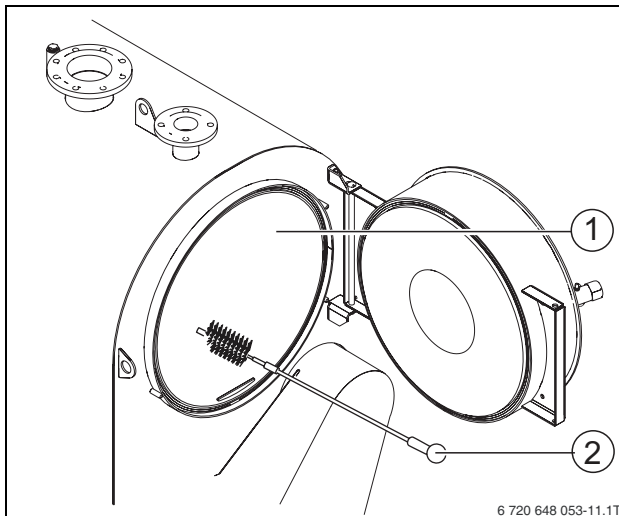
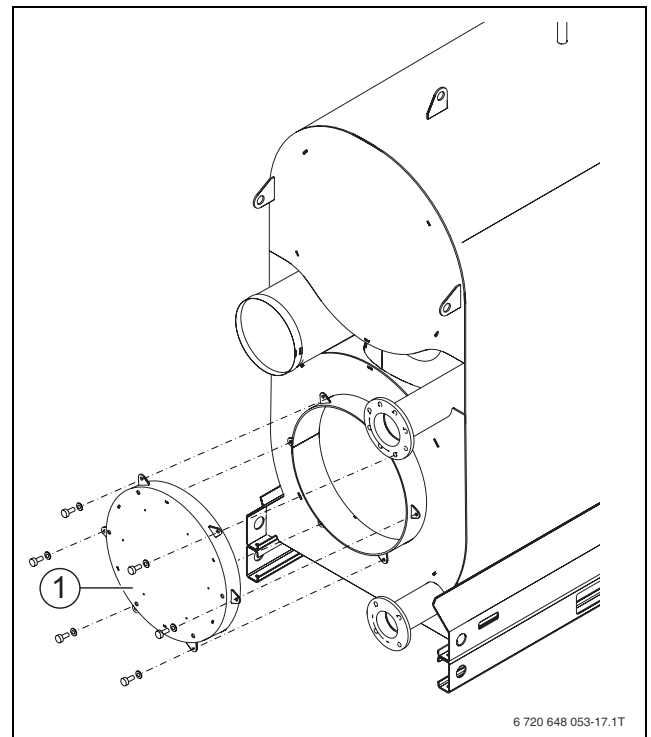

Fig. 28 Cleaning the heating surfaces
Fig. 29 Removing the reversing chamber cover
- ▶ Clean the heating surfaces of the combustion chamber (→ Fig. 28, [1], page 27) with the cleaning brush (→ Fig. 28, [2], page 27).
- ▶ Remove all loose combustion residues from the combustion chamber (→ Fig. 28, [1]), the hot gas flues and the reversing chamber (→ Fig. 29,[1]).